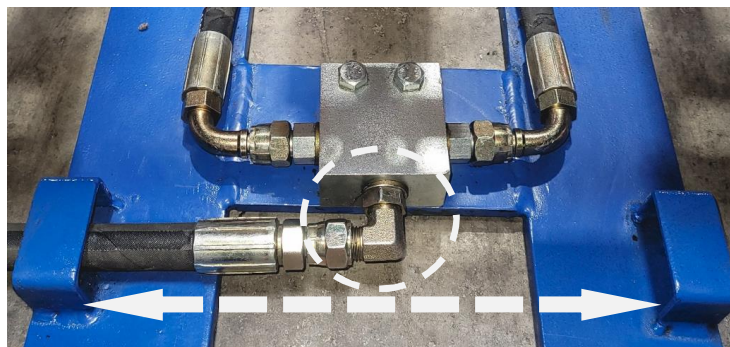

Fig. 7
- 8) Connect another end of **Long Hydraulic Hose** to hydraulic **90° Fitting & T-Block** located in the center of the pad lift base. **Ensure to orient 90° Fitting & route Hose to the desired side of lift.** **Fig. 7.**